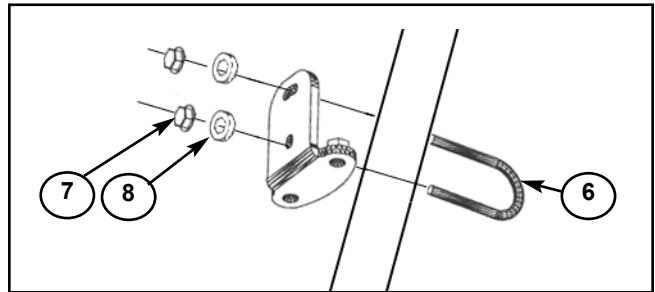
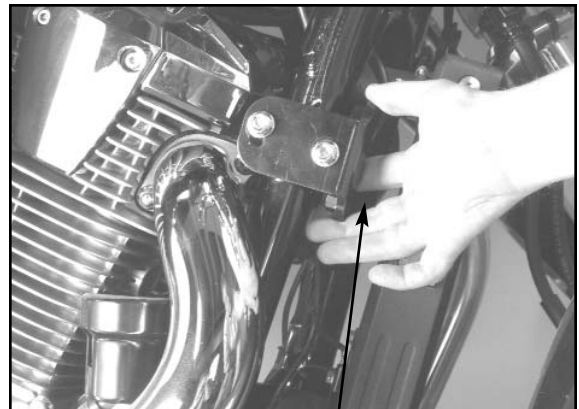

Figure 1
Figure 2
4. From the front, place the "U" Bolt on the frame down tube near the top of the engine. **Figure 1.** Loosely install Frame Bracket with Flat Washers and Whizlock Nuts (1/2" Wrench.) **Orient assembly so Whizlock Nuts face engine.** Do not tighten. **Figure 2.**